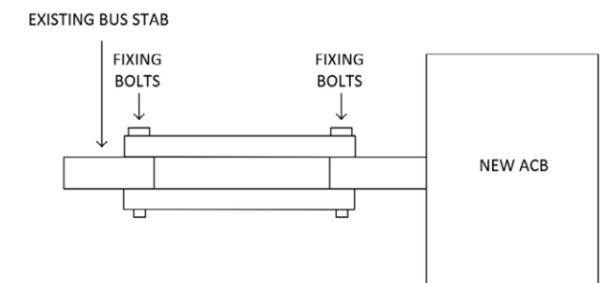

Figure 1 Side view.
- a) A "bolt in" type installation kit. This means the existing ACB cradle/sub-chassis is completely removed, and the new cradle/sub-chassis installed in its place with the new/adapted bus work bolted in place. The advantage here is more reliable electrical contact, as everything is bolted together and torqued, however due to the need to remove and reinstall bolts and fixings it results in a longer shutdown time. Also, if no rear access is available, it may be completely impossible. (figure 1)